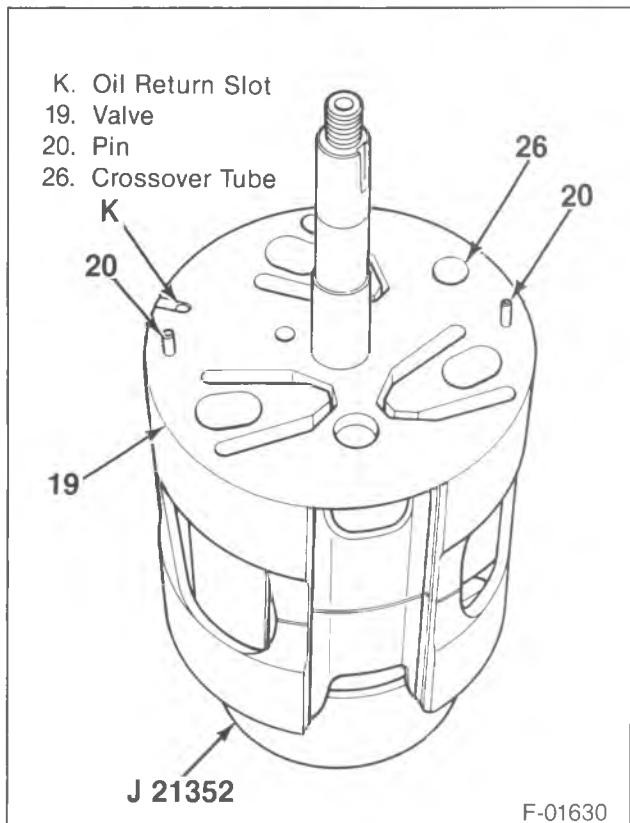
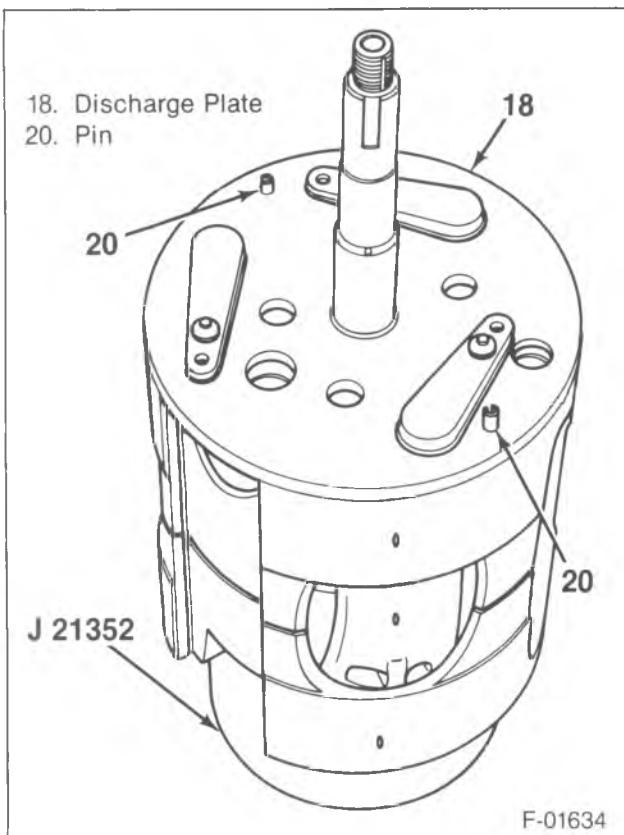
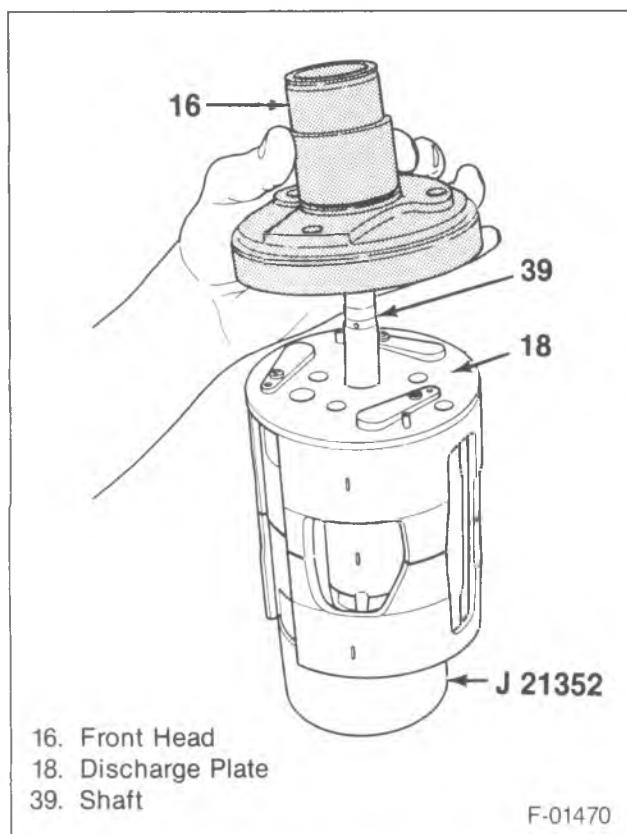

Figure 44—Installing the Front Suction Reed Plate
Figure 45—Installing the Front Discharge Valve Plate
Figure 46—Installing the Front Head
10. Dowel pins (20) to the front head (figure 44).
11. Front suction reed plate (19) to the front cylinder half (29) (figure 44).
- Align the dowel pins (20), suction ports, oil return slot and discharge cross-over tube (26).
12. Front discharge valve plate (18) (figure 45).
- Align the holes with the dowel pins (20) and the openings in the front suction reed plate (18). The front discharge plate (18) has a large hole in the center.
13. Front head (16) (figure 46).
- Determine the position of the front head (16) in relation to the dowel pins (20).
- Mark the position of the dowel pins (20) on the sides of the front head (16) and on the sides of the internal assembly with a grease pencil.
- Lower the front head (16).